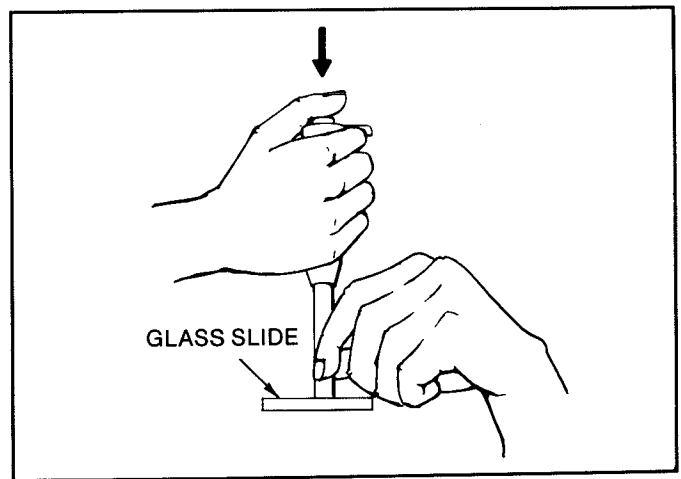

Figure 11. Striking the plunger tip against a glass slide.
- 12.5. Hold the barrel and Syringejet as shown in Figure 11. Place the barrel end flat against a glass plate. Depress the plunger several times so that the tip strikes the glass. This helps assure a correct fit between the plunger tip and the barrel.